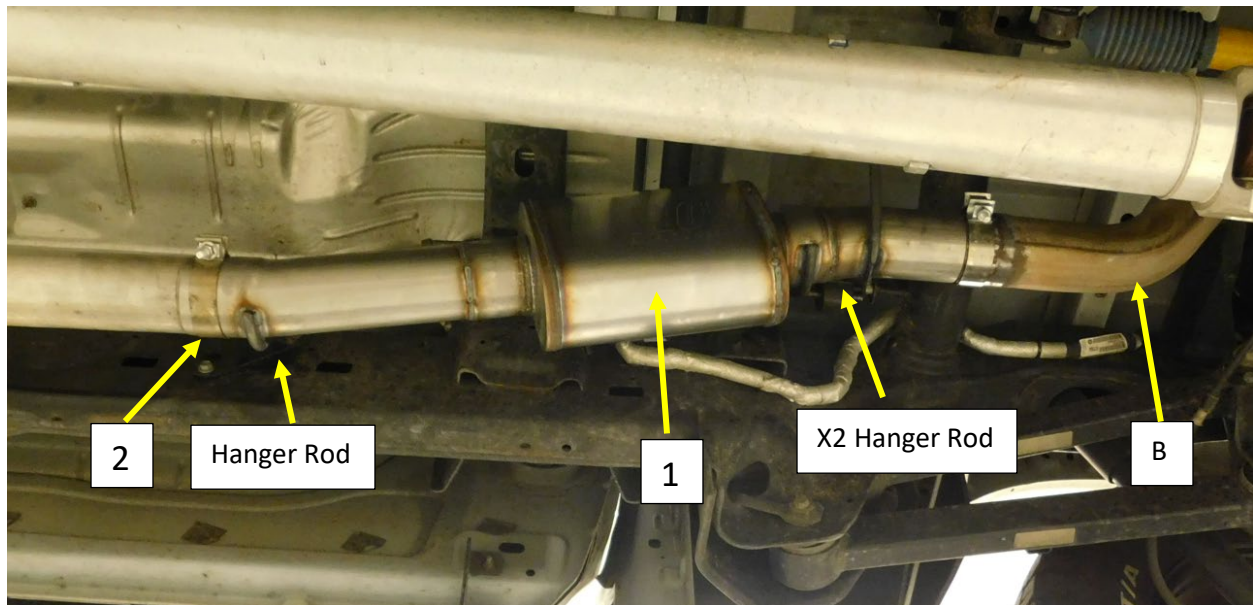

Figure. 2
1. Install the Supplied 3.5" band clamp **(2)** on to the Expanded and notched end of the Flowmaster Direct Fit Muffler assembly **(1)**. **Fig.2**